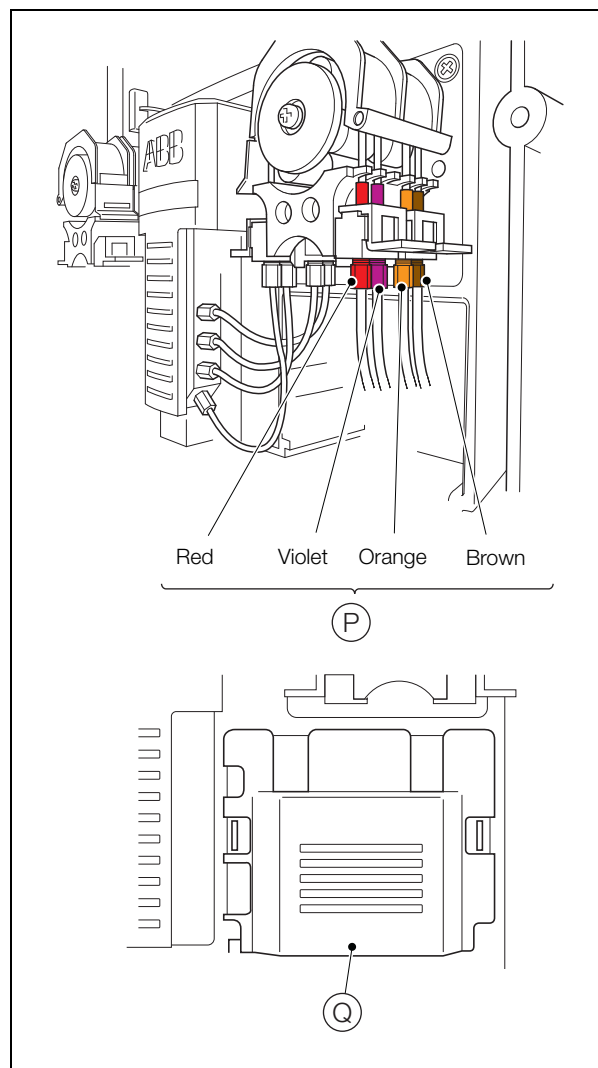

Fig. 4.10 Reconnecting the Reagent Tubes
4. Referring to Fig. 4.10:
- a. Reconnect the 4 reagent tubes (P) to the peristaltic pump connectors ensuring the color-coded sleeves are matched correctly. Tighten the tubing connectors finger-tight then, using a 6 mm open-ended spanner, tighten the connectors by a further $\frac{1}{6}$ turn. **Do not overtighten.**
- b. Refit the right-hand cover (Q).